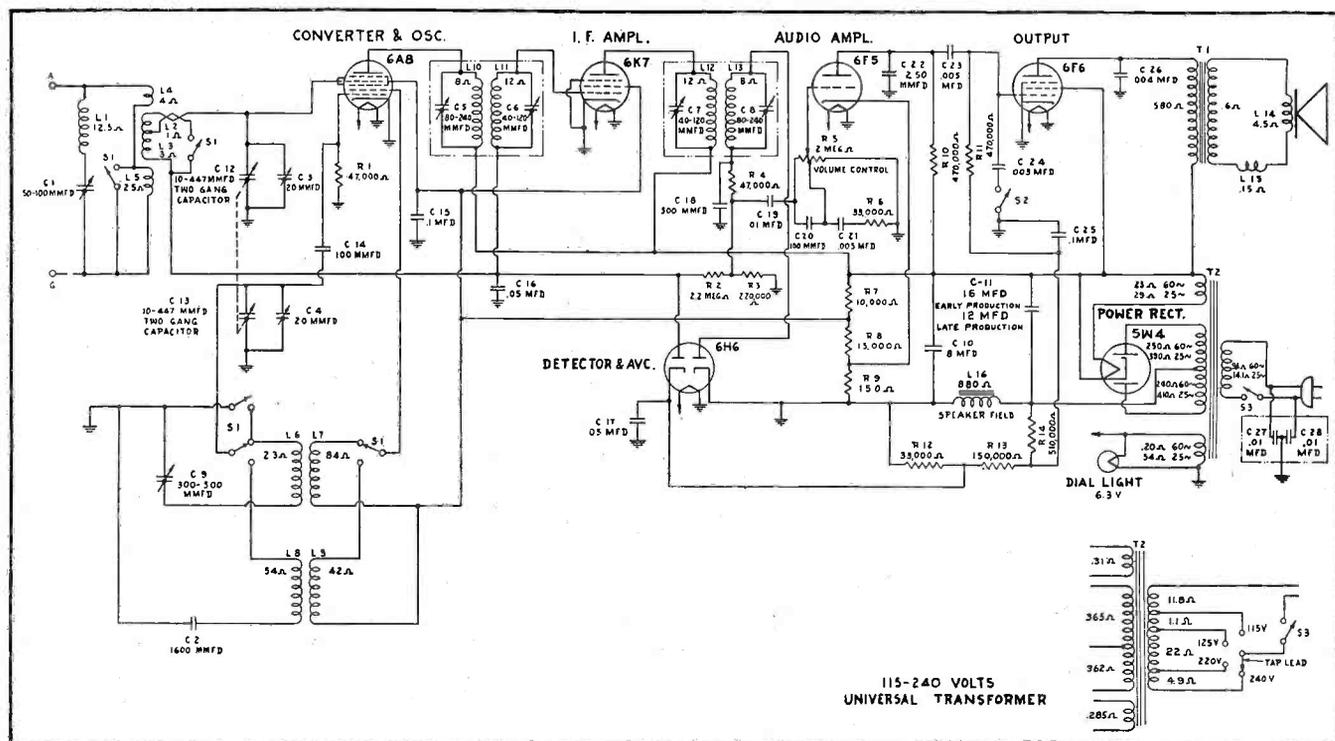

Fig. 1. G.E. E-61, E-62 and E-68 circuit diagram.
4. Adjust the short-wave band oscillator trimmer condenser (Fig. 1) for maximum output with minimum input from the signal generator. Then adjust the short-wave band antenna and radio-frequency stage trimmers for maximum output at the same time rocking the tuning condenser back and forth across the signal to insure the peak of greatest intensity.